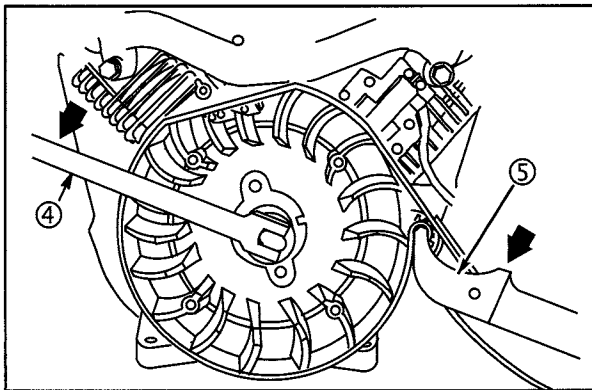

Fig. 14
1. Prevent the flywheel from turning with Flywheel Strap Wrench, #19433 (5) around outer rim of flywheel, Fig. 14.
2. Turn the flywheel nut COUNTERCLOCKWISE (arrow) with a 1/2" breaker bar (4) and a 30 mm socket to remove.